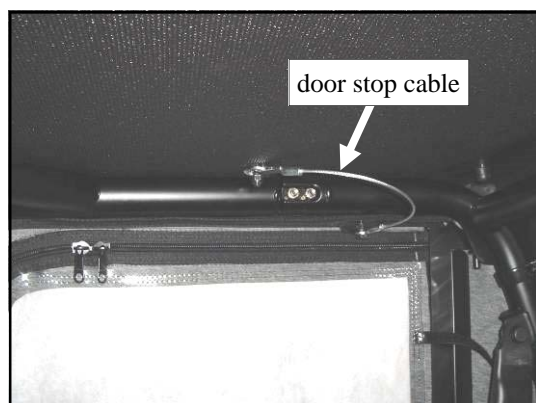

Fig. 10.1 (view of passenger's door from inside the cab)
10.1 Per fig. 10.1, connect the free end of the door stop cable to the door. Leave it slightly loose so that the cable may rotate freely.